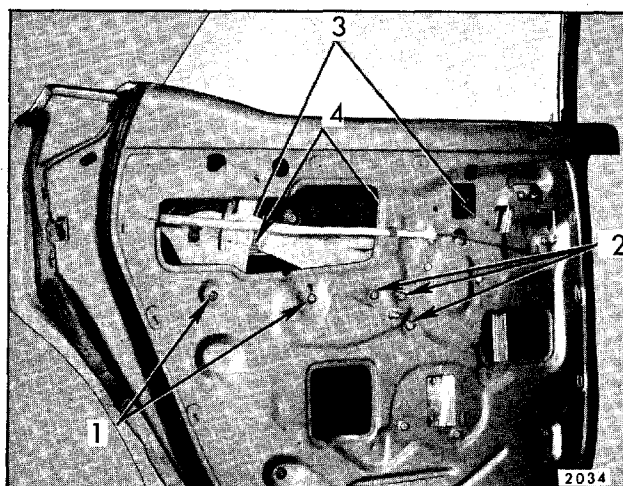

Fig. 7-145—Rear Door Hardware - "A-39" Style
4. Pull rear door glass straight up and remove assembly from door (see Fig. 7-145).
arms toward inner panel to ease removal procedure. If necessary, the front and rear guides can be loosened at upper attaching points (see Fig. 7-145).
The up-travel and sector gear stops can be adjusted to control height of door glass; the inner panel cam is adjustable at the rear attaching bolt to correct a rotated window; the upper attaching bolts of front and rear guides provide fore or aft and in or out movement of glass. The lower adjusting studs can be positioned to tip the window inboard or outboard at top edge of glass to maintain proper seal and to ease window operation. (see Fig. 7-145).